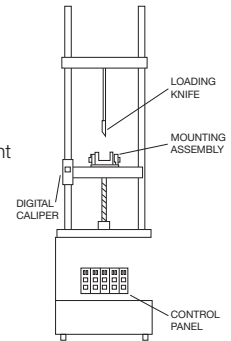

Fig 2 - Board Bend test equipment
- Board connected electrically to the test equipment (Figure 2)